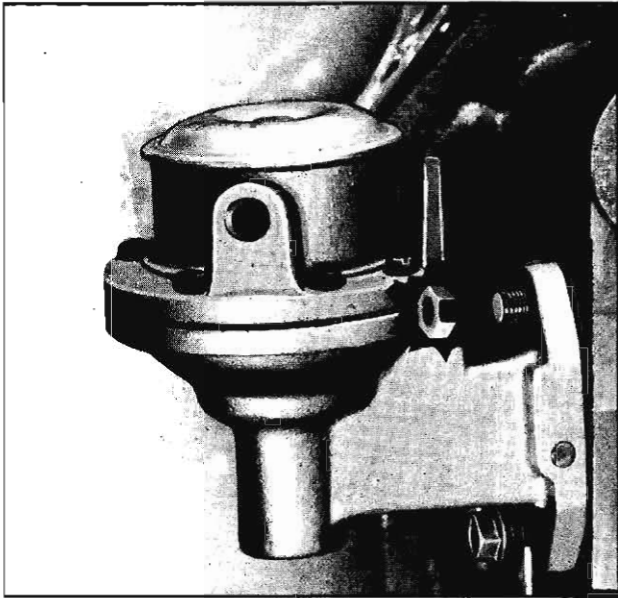

Fig. 3-480 Fuel Pump Mounting
2. Remove fuel pump to engine block mounting bolt and nut, and then remove fuel pump. (Fig. 3-480)